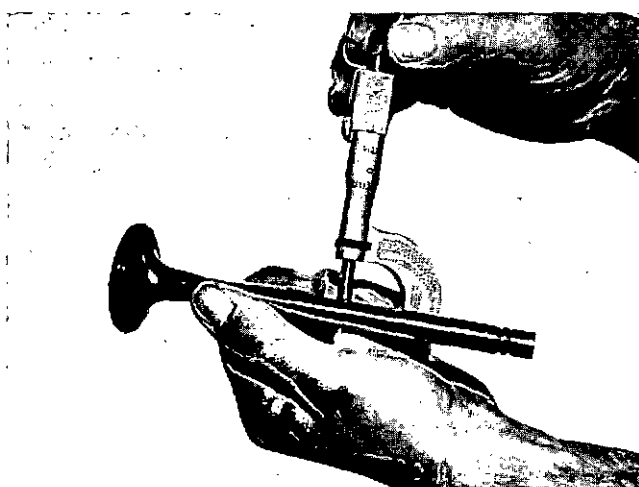

Fig. 2-13 (V40237). Measure The Outside Diameter Of The Valve Stem.
3. Measure the outside diameter of the valve stem, Fig. 2-13. Discard the valve if the stem is damaged or, measures less than 0.449 inch [11.44 mm].